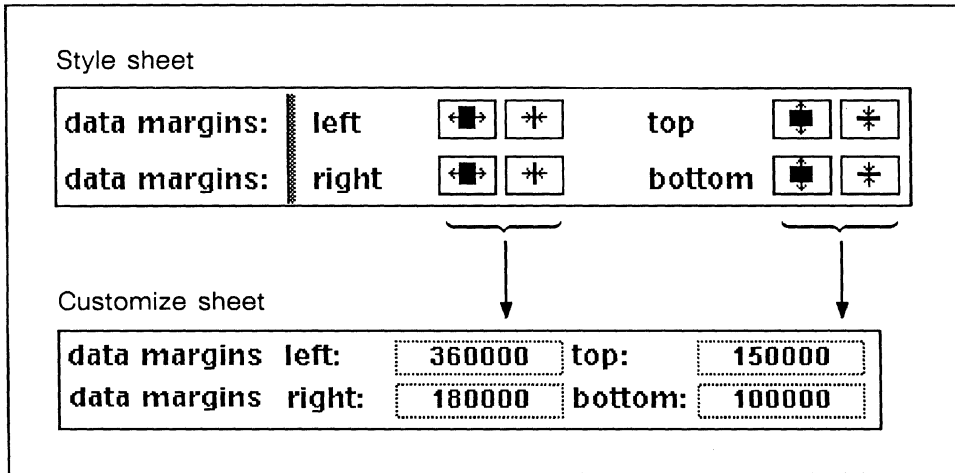

Figure 29-19. Numeric value of data margins
**Data margins.** On the Style sheet you can increase or decrease the size of the data margins by pointing the mouse cursor at one of the eight data margin icons and clicking the right or left button. Each click represents a change in the numeric value of that data margin on the Customize sheet. (For details on the numeric value of each click, see Figure 29-5.) Figure 29-19 shows the data margin portion of both the Style and Customize sheets. To produce more subtle variations in data margin widths, modify the value of the appropriate *data margin* on the Customize sheet.